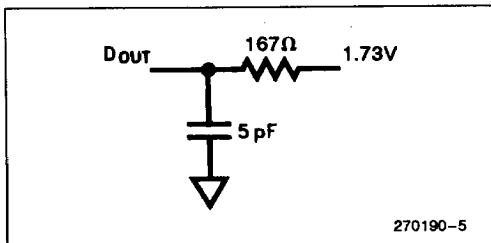

Figure 3. Output Load for t_{HZ} , t_{LZ} , t_{WZ} , t_{OW}
3. Transition is measured at $\pm 500\text{ mV}$ from steady-state voltage with specified loading in Figure 3.
2. Transition is measured at ± 500 mV from steady-state voltage with specified loading in Figure 3.